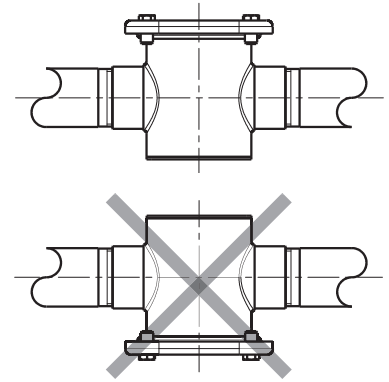

fig. 1
- The valve can be installed horizontally (Fig. 1) with the sealing cover facing up, at an angle not to exceed 90°, but never with the cover facing down.